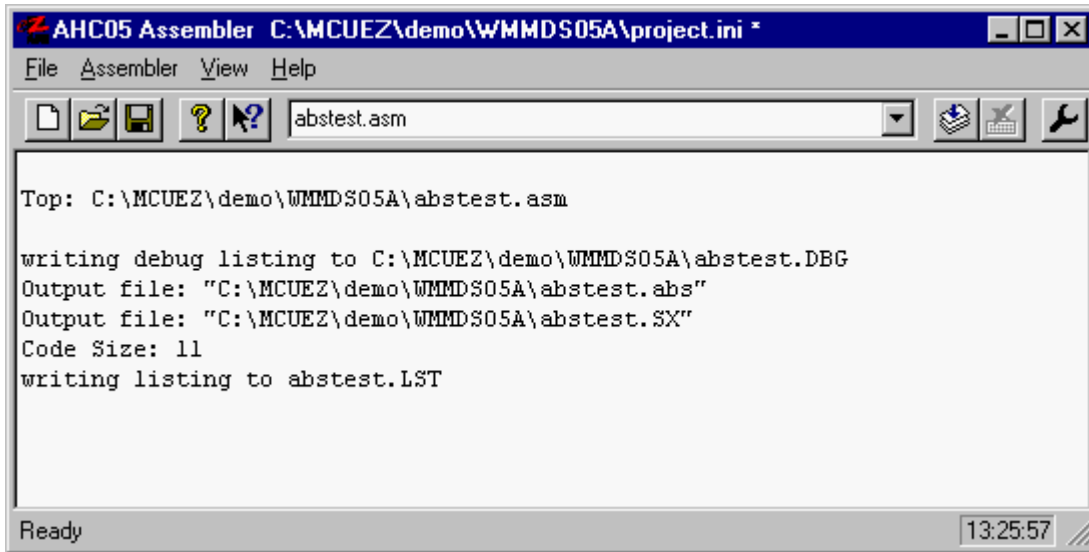

Figure 11-4. Generating an Assembler .abs File
4. Select the radio button **ELF/DWARF 2.0 Absolute File** and click **OK** to generate an absolute file. Click on the **Assemble** button to assemble the file. The assembly process is shown in **Figure 11-4**.